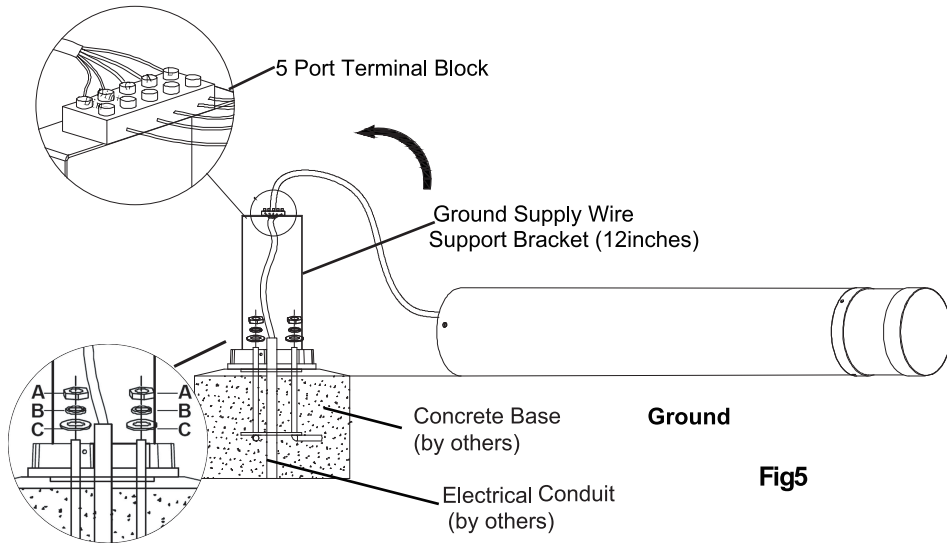

Fig5
- As the wires shown on (Fig5) will not be disconnected during installation, so please double check to make sure they are in good connection after the base installation.